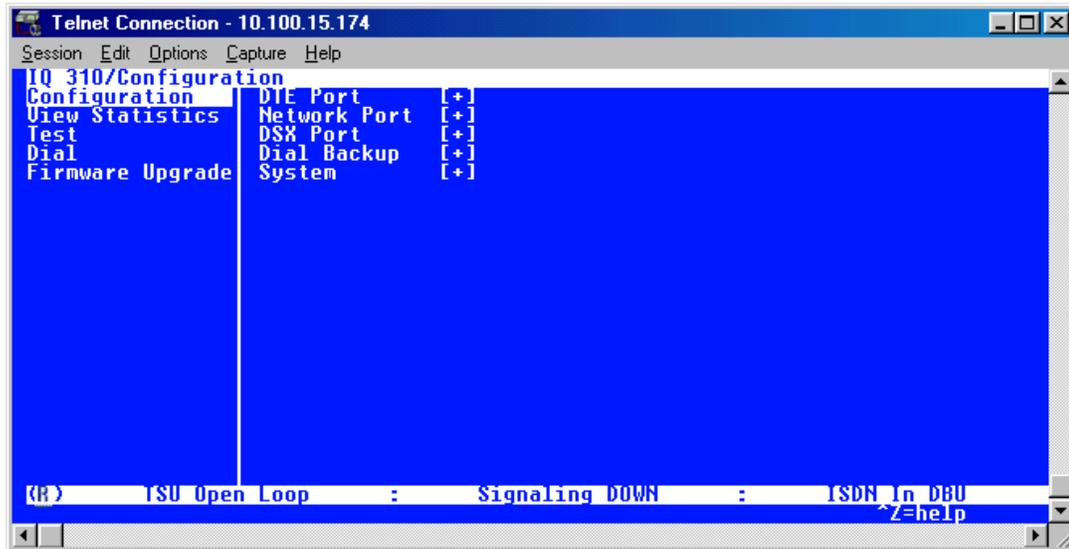
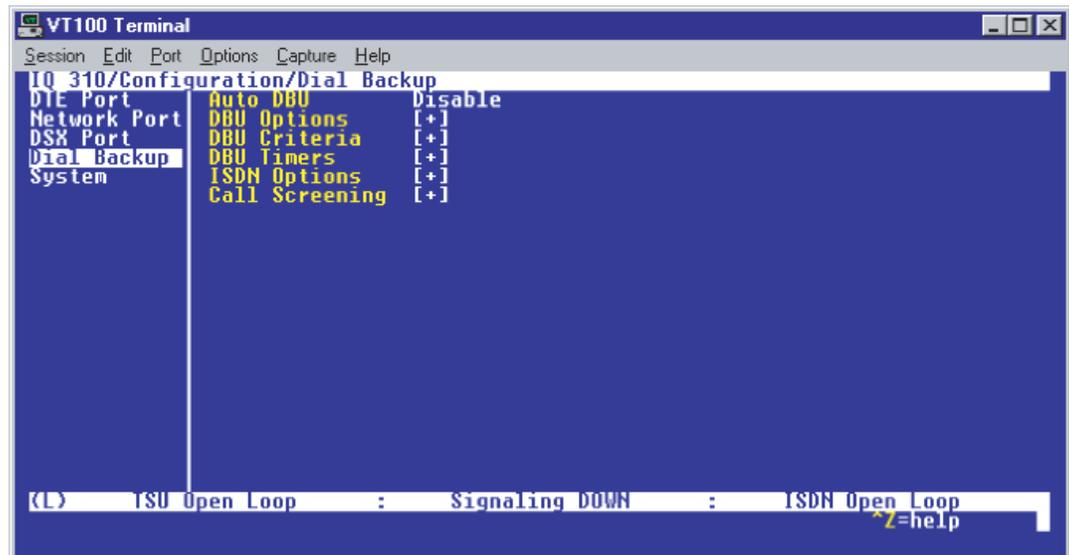

Figure 2. Main Menu
Figure 3. Dial Backup Menu
1. From the **CONFIGURATION** menu terminal screen (Figure 2) of the IQ 310, select **CONFIGURATION** and press **<ENTER>**.
2. Using the arrow keys, select **DIAL BACKUP** from the **CONFIGURATION** menu shown in Figure 2; then press **<ENTER>**. The resulting screen is displayed in Figure 3.